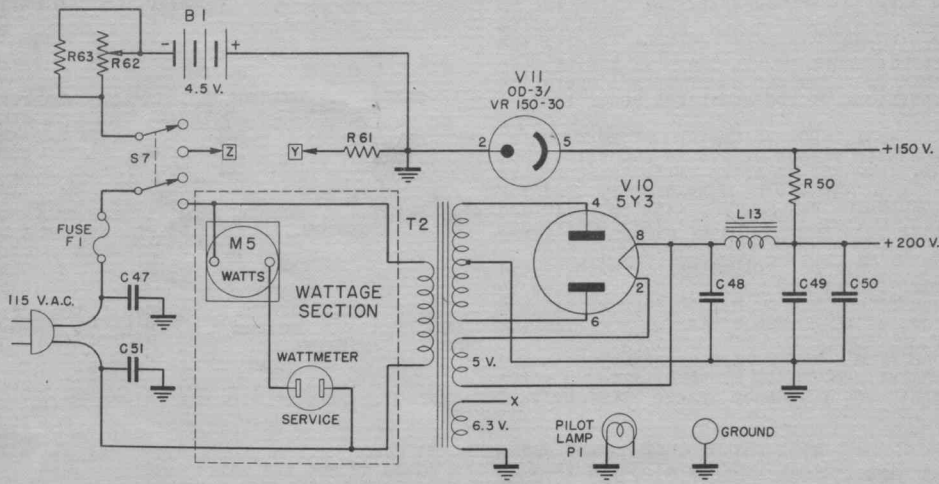

Figure 2.1 - Power Supply
a. Power Supply - The power supply, shown in Figure 2.1, is of the conventional type utilizing a power transformer, full-wave rectifier, condenser input filter circuit and voltage regulator tube. Capacitors C47 and C51 are used to bypass any r-f voltages to ground so that any stray r-f voltages will not cause the r-f i-f or oscillator-high frequency voltmeters to read. Operation of the POWER switch, S7, closes both the a-c supply line and the d-c circuit of the dry cells.
b. Wattmeter - The wattmeter consists of an a-c ammeter connected in series with the WATTMETER SERVICE outlet, as shown in Figure 2.1. It has two scales: one calibrated to 150 watts, based on a 115 volt line at unity power factor load; the other scale calibrated from 0 to 1.3 amperes, independent of the type of load.